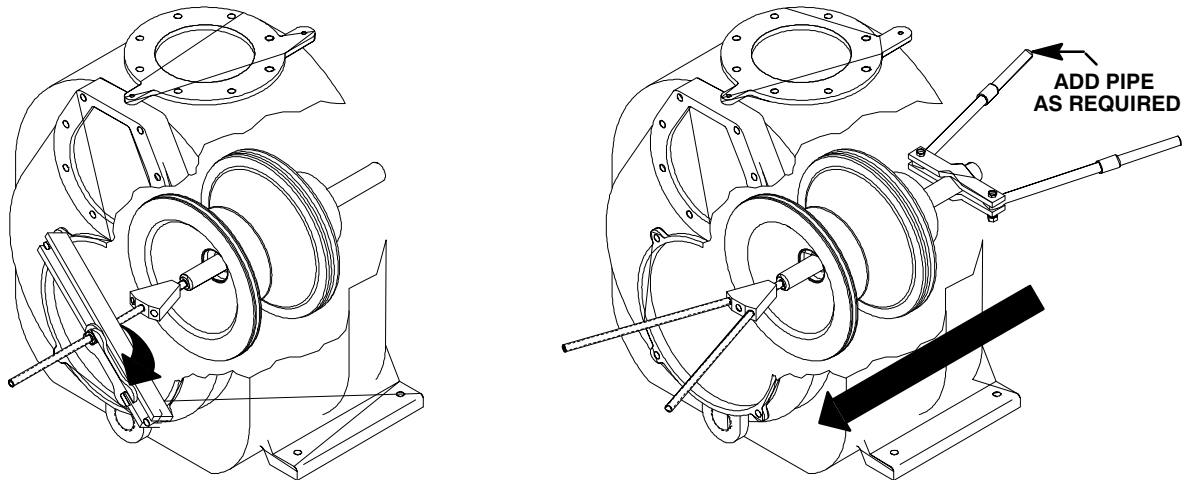

Figure E-3. Rotating Assembly Removal With Tool
Remove the inner hardware (25 and 26) from the casing ring (22). If the removal tool is used, follow the instructions packaged with it, and pull the rotating assembly from the pump casing (see Figure E-3 for removal tool use). If the removal tool is not used, install three of the inner capscrews in the jacking holes in the casing ring, and use them to press the rotating assembly into the pump casing until the bearing housing is free.
After the rotating assembly is loosened, screw a 5/8-11 UNC X 16 inch long threaded rod into the hole in the impeller shaft. Support the drive end of the shaft with a 1-13/16” (46 mm) minimum I.D. piece of pipe or a set of handles as shown in Figure E-3, and slide the complete rotating assembly through the suction head opening. Once free, use a suitable hoist and sling and attach it to the lifting eye provided at the top of the bearing housing to move the rotating assembly to a suitable work area for further disassembly.